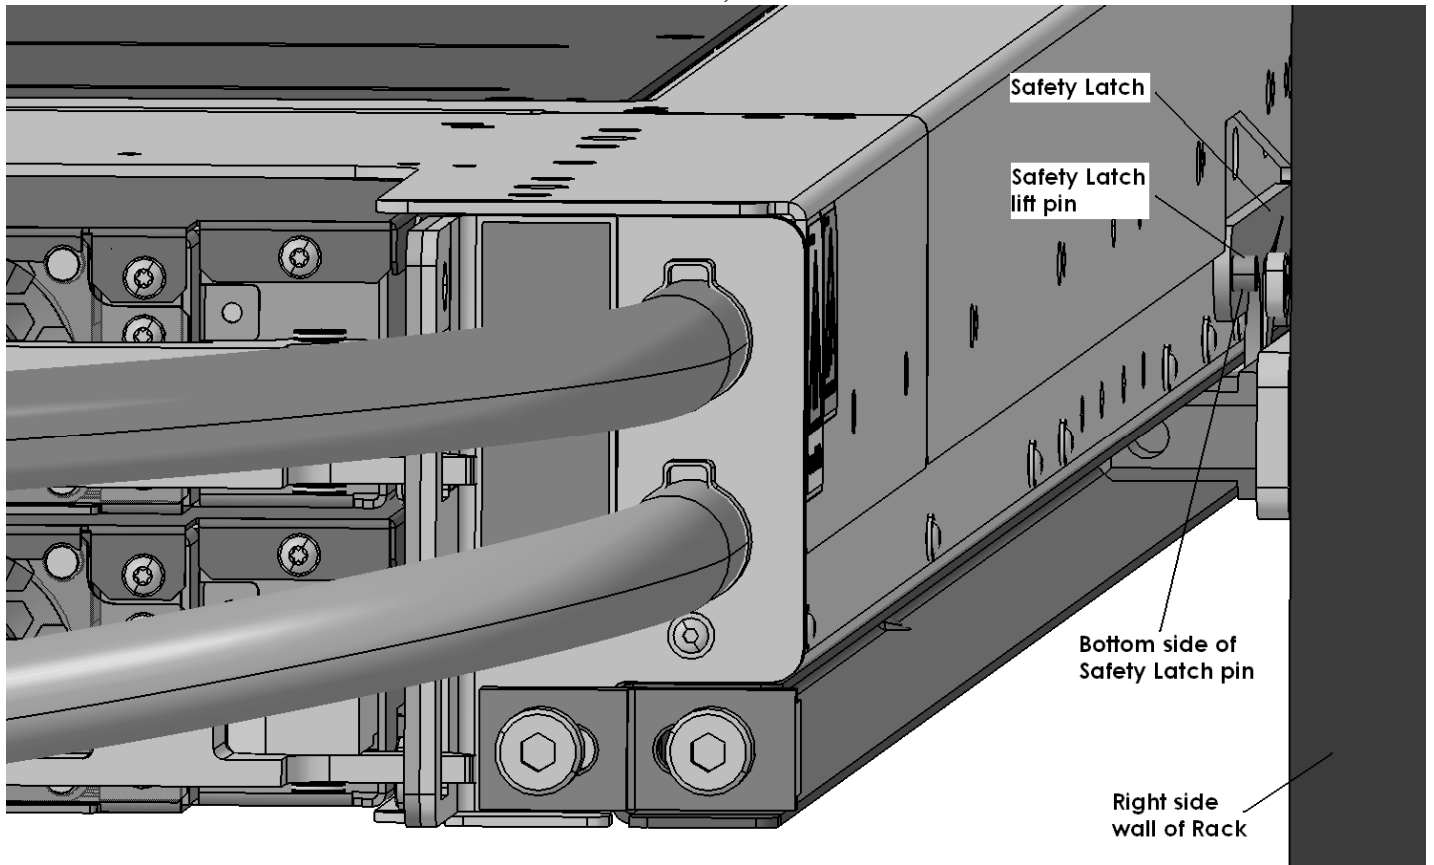

Figure 30 Safety Latch actuation
STEP 45 On the right-hand side, insert the 4mm Hex Driver (41V1059) into the gap between CEC Drawer and Rack so that the 4mm Hex Driver rests on the bottom side of the Safety Latch Lift Pin. See Figure 30.